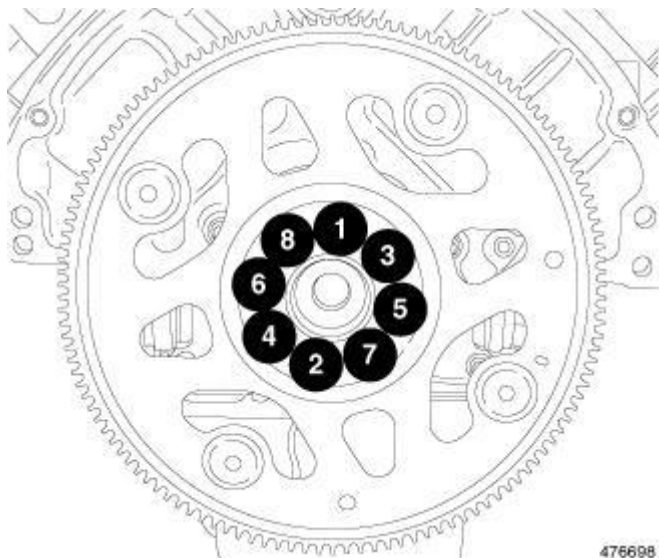

Fig. 179: Flexplate Retaining Bolt Removal & Tightening Sequence
2. Using the sequence shown in **Fig. 179**, tighten the flexplate retaining bolts to 95 N.m (70 ft. lbs.).